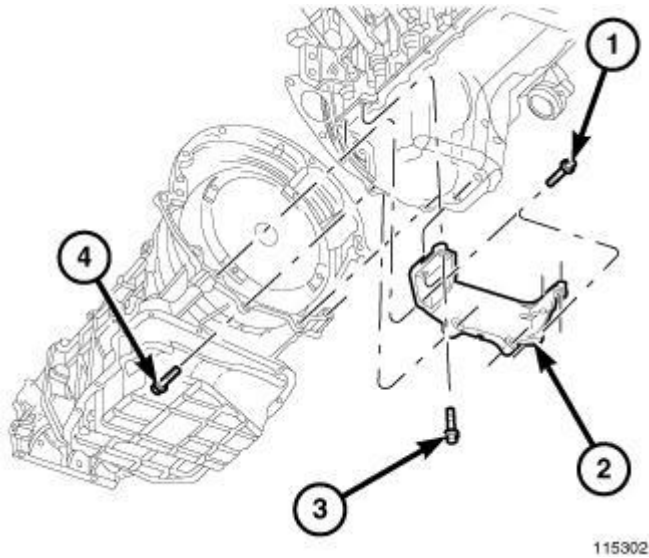

Fig. 12: Structural Cover
37. Remove the structural cover. Refer to **Fig. 12**.